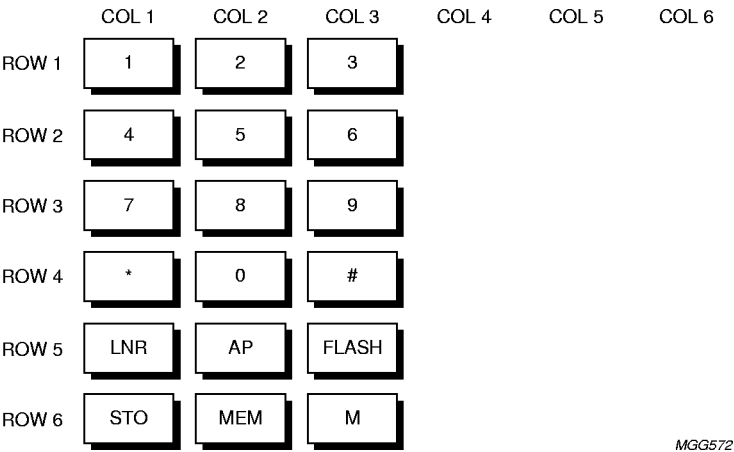
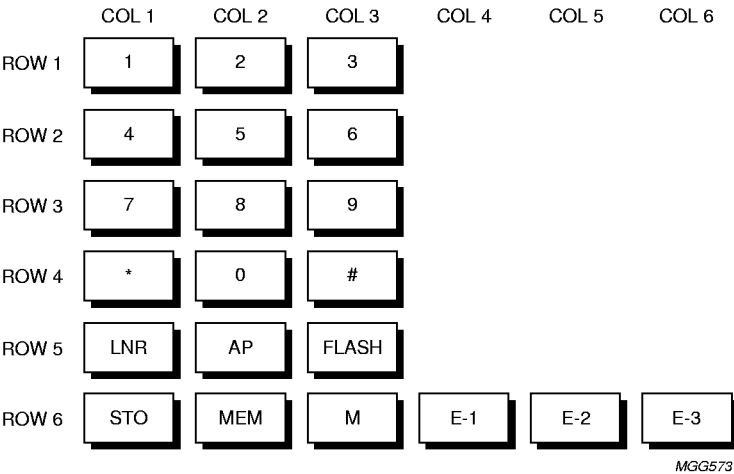
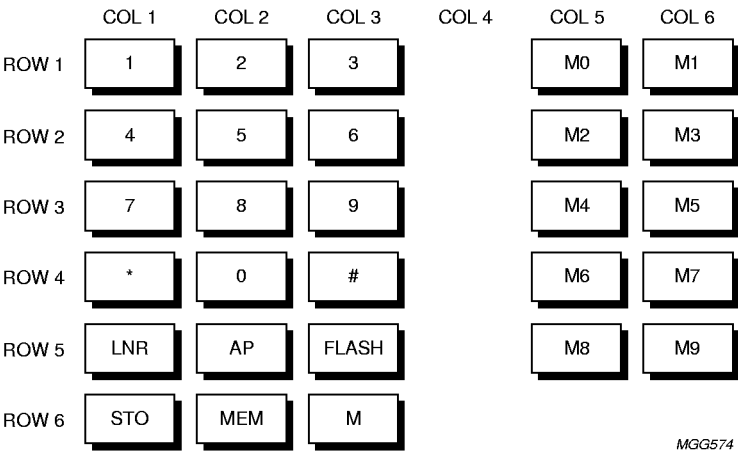

Fig.2 Basic keyboard.
Fig.3 Basic keyboard with 3 extra 1-key abbreviated dialling keys.
Fig.4 Basic keyboard with 10 extra 1-key abbreviated dialling keys.
- Figure 2. The simplest keyboard. All basic functions are available but only 2-key abbreviated dialling (MEM + digit) is possible.
- Figure 3. As Fig.2 but with 3 extra 1-key abbreviated dialling keys.
- Figure 4. As Fig.2 but the 10 repertory numbers can be reached via M0 to M9 with 1-key abbreviated dialling.